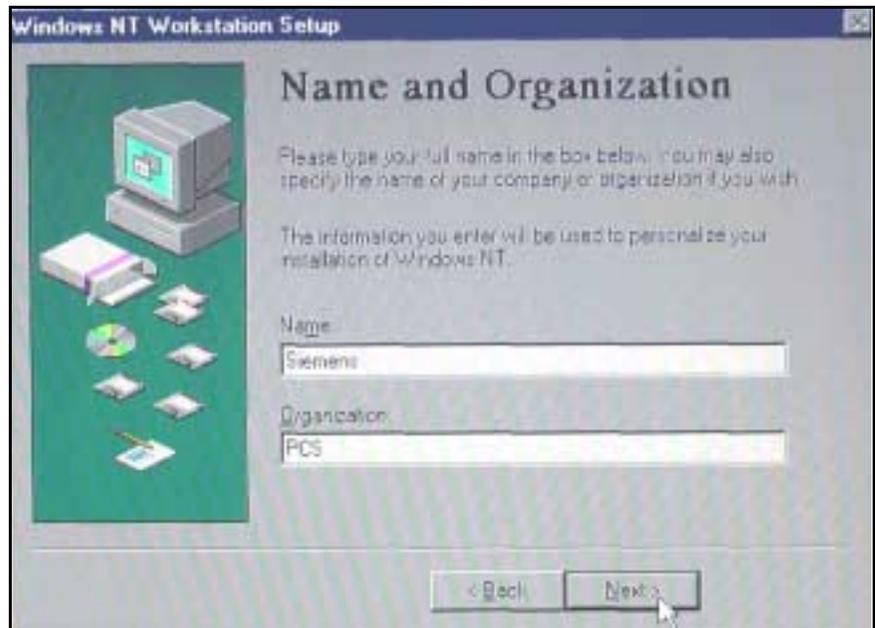

Figure 4-12 Name and Organization screen
20. At "Name and Organization" screen (see Figure 4-12), type in Company or Hospital name in "Name" box, and Company or Hospital Organization in "Organization" box, and then click *Next*.